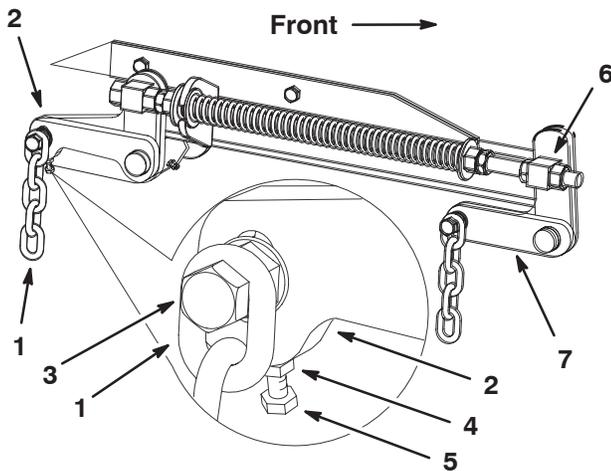

Figure 52
- If the measurements at positions **B** or **C** are incorrect, loosen the bolt that attaches the rear chain to the rear support arm (Fig. 52).